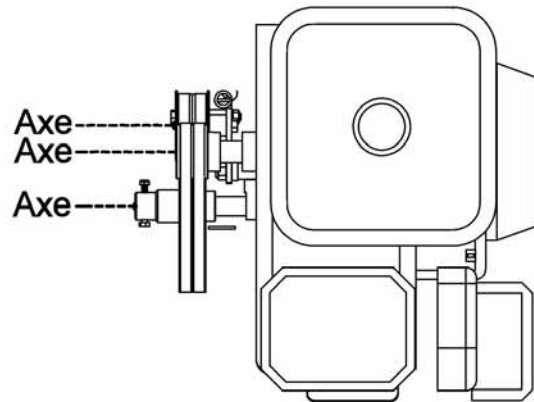

Figure 2
**NOTE: It is very important that the pulleys are aligned (as shown in the two views: back view of the snowblower (fig. 1) and the top view of the snowblower (fig. 2)).**